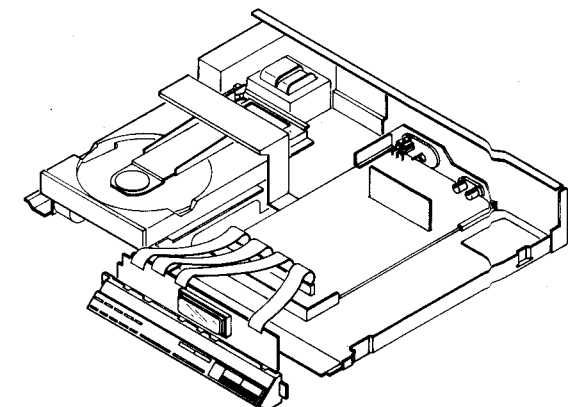

Fig. 24
5. Shift it as in Fig. 24 and check.